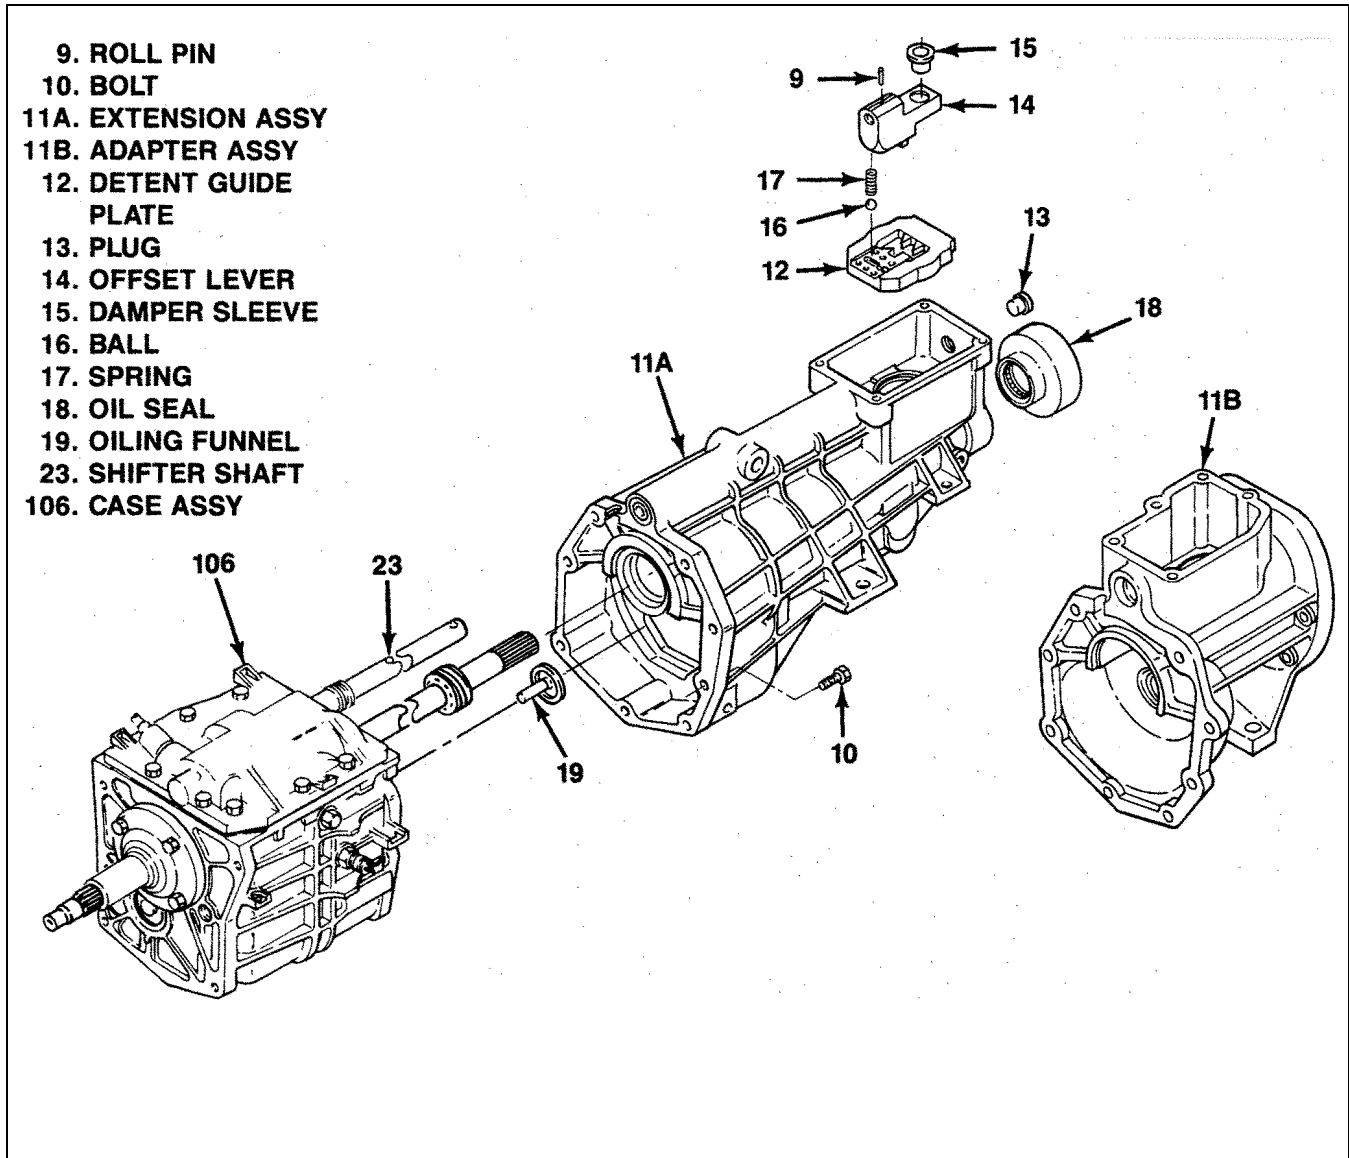

Figure 7-19. T5 STD Extension or Adapter
7-18. INSTALLATION OF T5 STD EXTENSION OR ADAPTER. With case cover installed, proceed as follows (see figure 7-19):
- a. If used, install wire retainer (8), pin (7) and neutral switch (6).
1. Install boot (4) if replaced.
3. Position control lever and housing assembly (3A or 3B) on extension (11A) or adapter (11B) engaging inside end of lever in damper sleeve (15, figure 7-19) installed in offset lever (14, figure 7-19).
4. Install screws (2) and torque to 13 lb-ft (17 Nm).
- d. Install fill and drain plugs (1) and torque to 20 lb-ft (27 Nm).